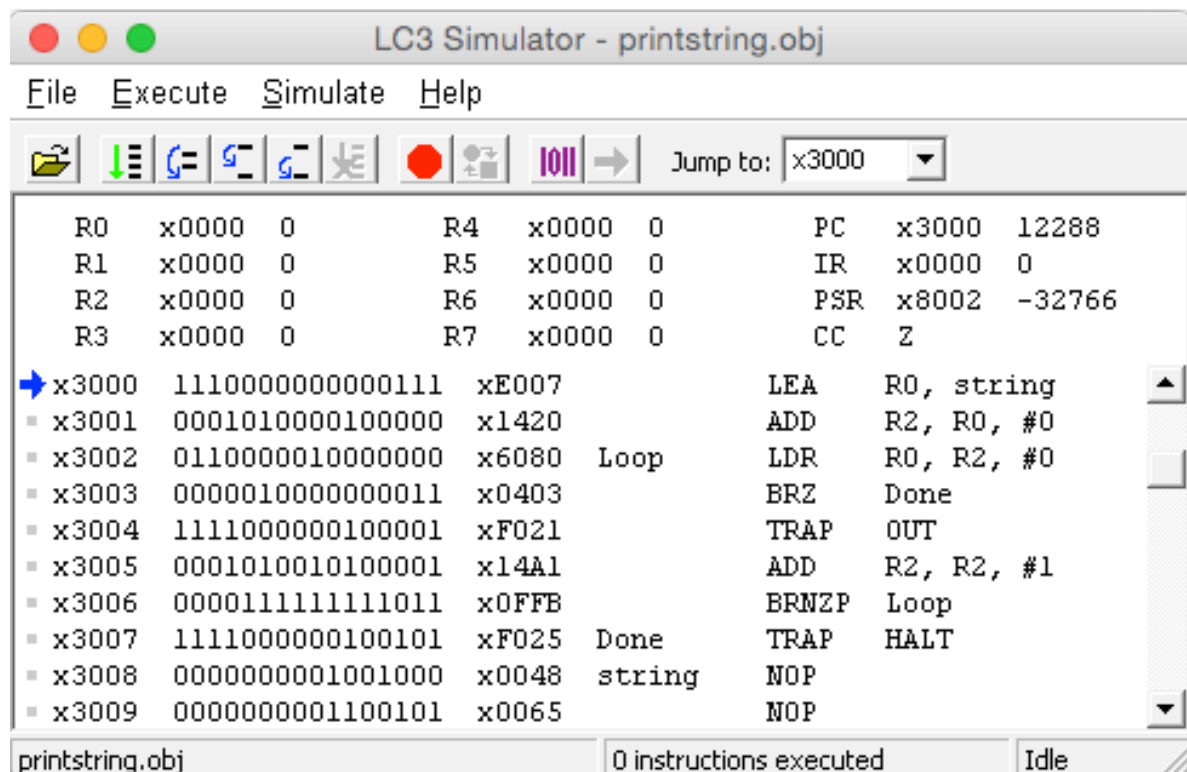

Figure 3: LC-3 Simulator: After Loading *printstring.obj*
- Figure 3 shows the simulator after loading in an object file (with *File → Load Program...* or *Ctrl+L*).